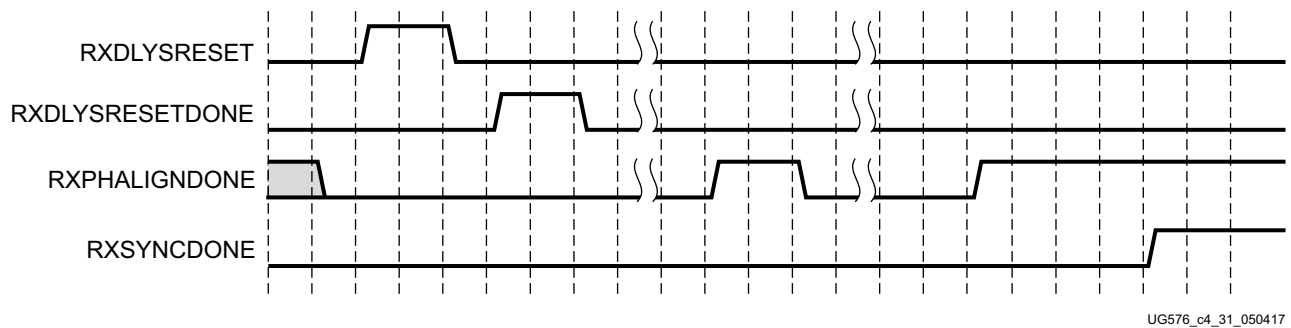

Figure 4-35: RX Buffer Bypass Example—Single-Lane Auto Mode
Figure 4-35 shows the required steps to perform the auto RX phase alignment and use the RX delay alignment to adjust RXUSRCLK to compensate for temperature and voltage variations.
Notes relevant to Figure 4-35:
1. The sequence of events in Figure 4-35 is not drawn to scale.